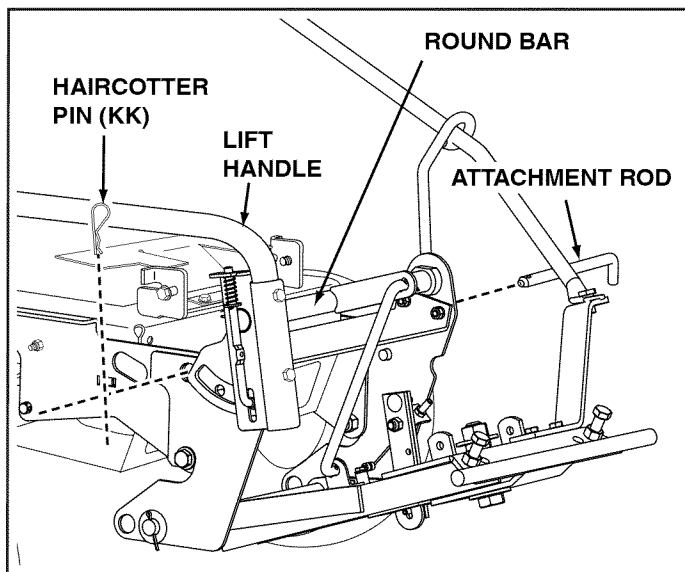

FIGURE 29
STEP 2: (SEE FIGURE 29)
- From the left side, insert the attachment rod through the holes in the frame assembly and the frame brackets and secure with a haircutter pin (KK).